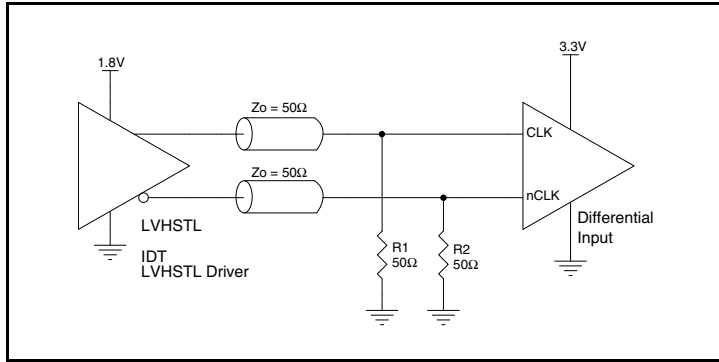

**Figure 2. Recommended Schematic for Wiring a Differential Input to Accept Single-ended Levels**
*Figure 2* shows how a differential input can be wired to accept single ended levels. The reference voltage  $V_1 = V_{CC}/2$  is generated by the bias resistors  $R1$  and  $R2$ . The bypass capacitor ( $C1$ ) is used to help filter noise on the DC bias. This bias circuit should be located as close to the input pin as possible. The ratio of  $R1$  and  $R2$  might need to be adjusted to position the  $V_1$  in the center of the input voltage swing. For example, if the input clock swing is  $2.5\text{V}$  and  $V_{CC} = 3.3\text{V}$ ,  $R1$  and  $R2$  value should be adjusted to set  $V_1$  at  $1.25\text{V}$ . The values below are for when both the single ended swing and  $V_{CC}$  are at the same voltage. This configuration requires that the sum of the output impedance of the driver ( $R_o$ ) and the series resistance ( $R_s$ ) equals the transmission line impedance. In addition, matched termination at the input will attenuate the signal in half. This can be done in one of two ways. First,  $R3$  and  $R4$  in parallel should equal the transmission line